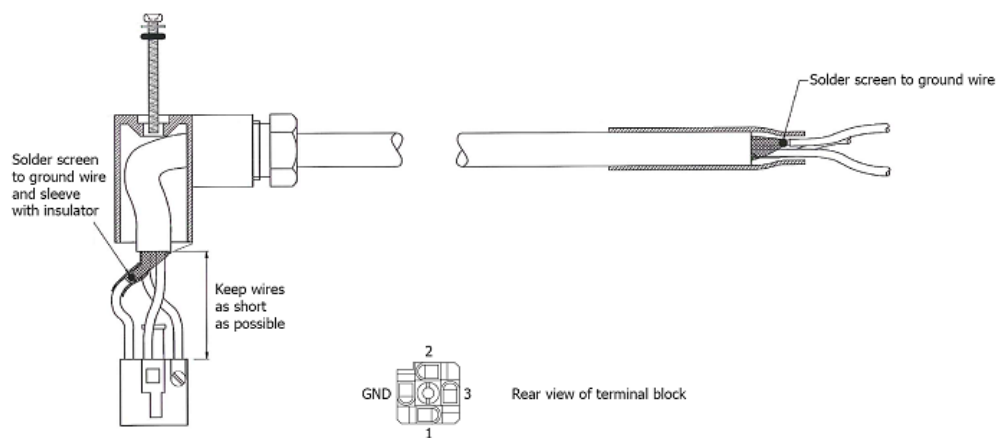

Figure 17 *Cable Assembly*
4. Cable should be assembled according to Figure 17.